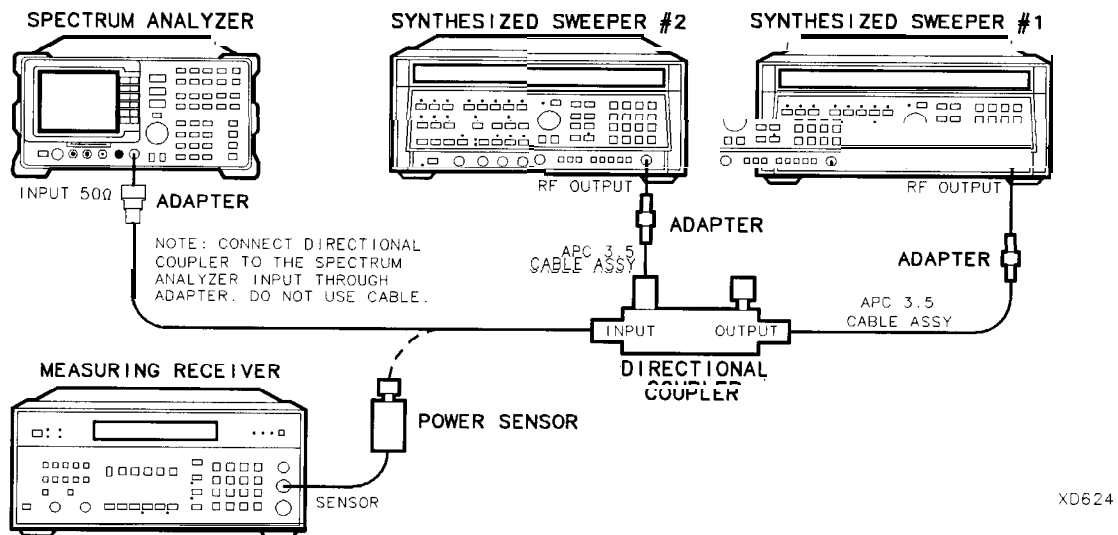

Figure 2-64. Gain Compression **Test Setup**
2. Connect the equipment as shown in Figure 2-64, with the output of the directional coupler connected to the power sensor.
28. Connect the equipment as shown in Figure 2-64.